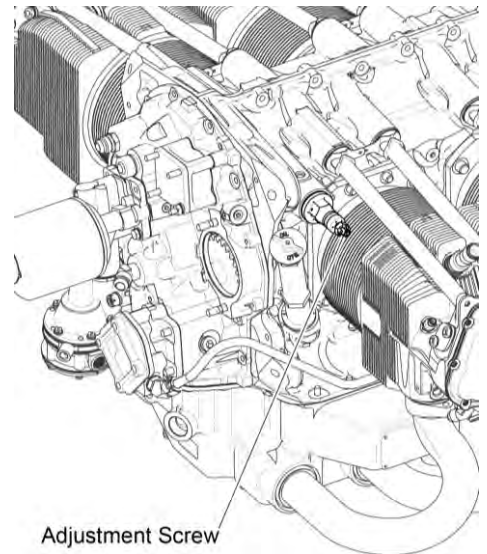

Figure 1
NOTICE: On the majority of these engines, there is an adjustment screw (Figure 1) on the oil pressure relief valve housing. Rotation of this screw either increases or decreases the oil pressure to keep it within the specified operational limits in Appendix A of the *IO-390-C Series Engine Installation and Operation Manual*.
- (1) The engine must be installed in the aircraft or on a test stand to complete this procedure.
- (2) Start and operate the engine per instructions in the *IO-390-C Series Engine Installation and Operation Manual*.
- (3) Run-up the engine to 2000 rpm.
- (4) Record the oil pressure reading.
- (5) If the oil pressure is out of tolerance, turn off the engine and adjust the oil pressure as follows:
- To *increase* oil pressure, turn the pressure adjustment screw on the oil pressure relief valve *clockwise* (Figure 1).
- (6) Start the engine and repeat the previous steps until the oil pressure is within specified limits.